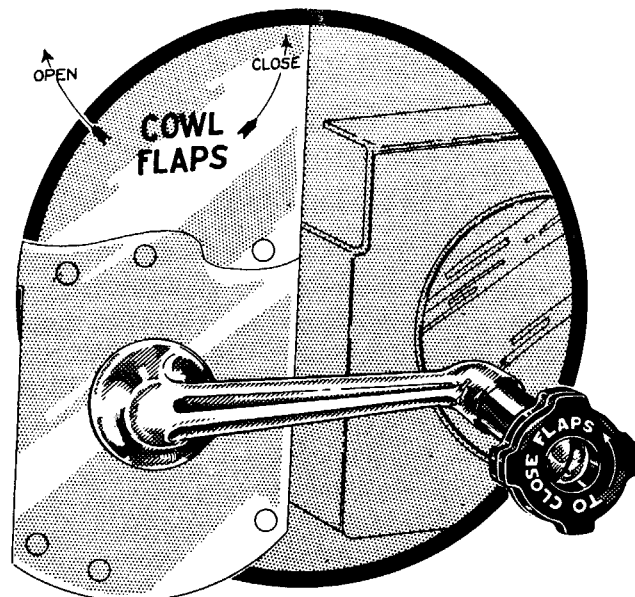

Figure 10 — Cowl Flaps Control
(8) **COWL FLAPS CONTROL.**—The cowl flaps are manually operated by means of a hand crank located to the right of the main instrument panel (see figure 10). Rotate the crank clockwise to open the flaps, and counterclockwise to close them. The flaps can be set at any intermediate position between open and closed.